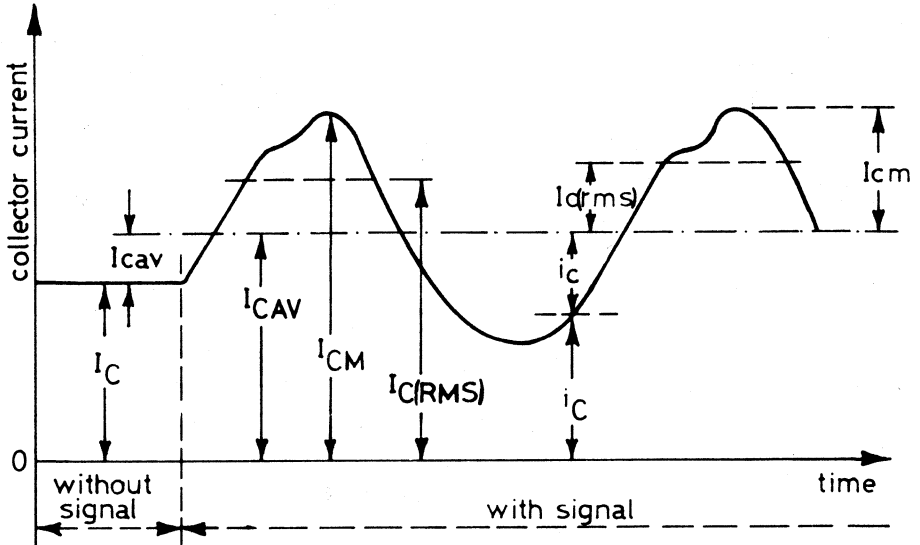

fig. 1
- d. List of subscripts (for examples see figure 1 and the fundamental symbols schedule e.)
Figure 1 represents a transistor collector current, consisting of a direct current and a variable component as a function of time.